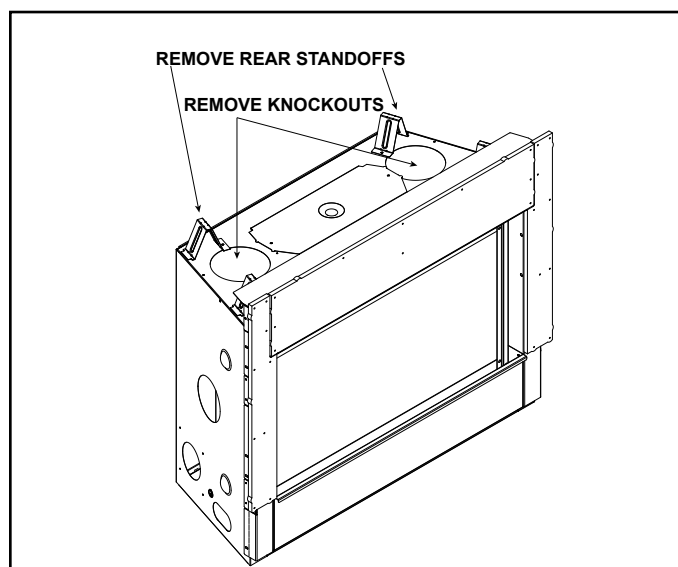

Figure 7 Remove Knockouts
1. Remove rear standoffs and discard. See Figure 7.
2. Remove both top knockouts from outer wrap as shown in Figure 7. Discard knockout piece and ensure no other material or debris is blocking the hole created by removing the knockout.